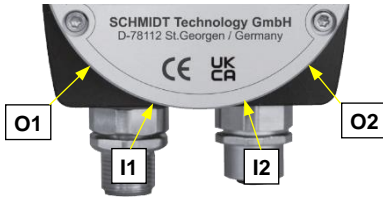

Figure 5-2 Position of LEDs for alternating flashing or moving light
- „O1“, „O2“, „I1“, „I2“: LEDs near both connectors („O“: outside; „I“: inside, see Figure 5-2)